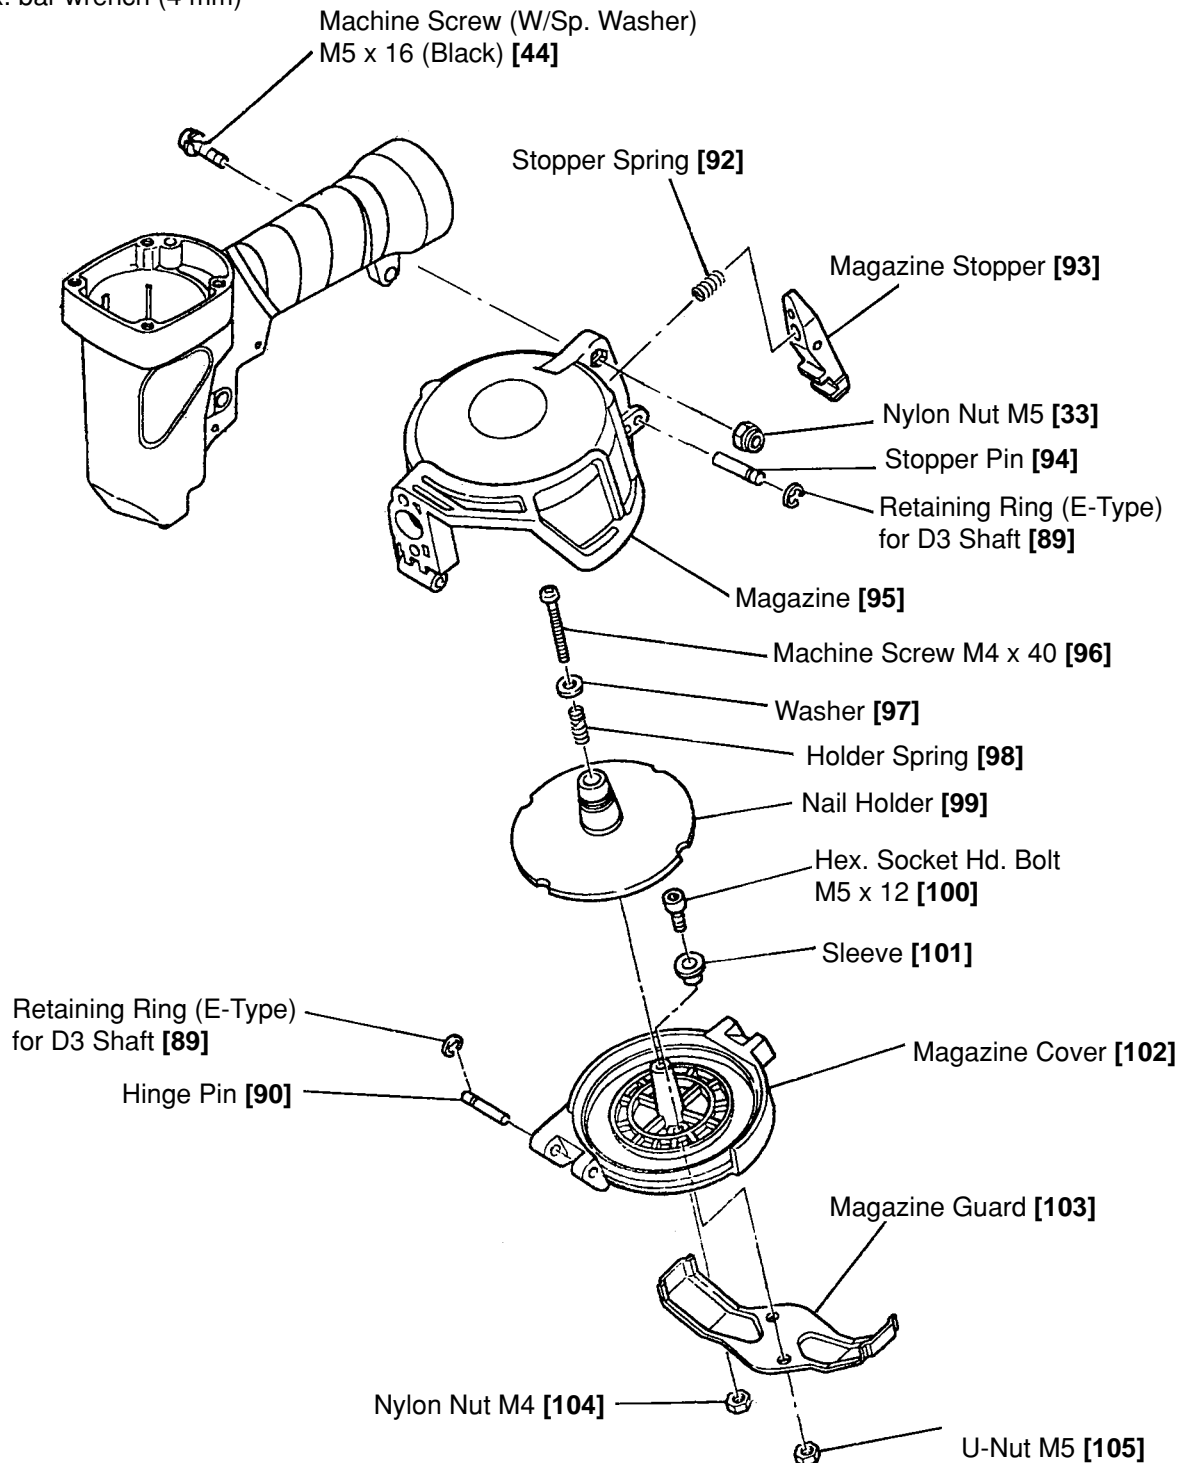

Fig. 25 Disassembly and reassembly of the magazine section
(2) Disassembly and reassembly of the magazine section (See Fig. 25)
(3) Disassembly and reassembly of the Magazine Stopper **[93]** (See Fig. 25)
(4) Disassembly and reassembly of the Magazine Cover **[102]** (See Fig. 25)
(5) Disassembly and reassembly of the Nail Holder **[99]** and the Magazine Guard **[103]** (See Fig. 25)